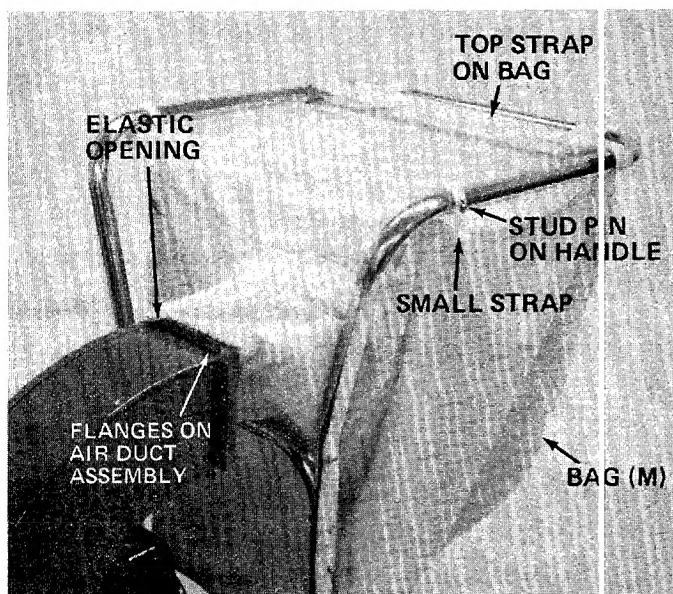

FIGURE 8.
5. Assemble the bag by slipping the top straps on bag (M) over upper handle. Hook two small straps over stud pins on handle. Slip elastic opening of bag over air duct assembly. See figure 8.